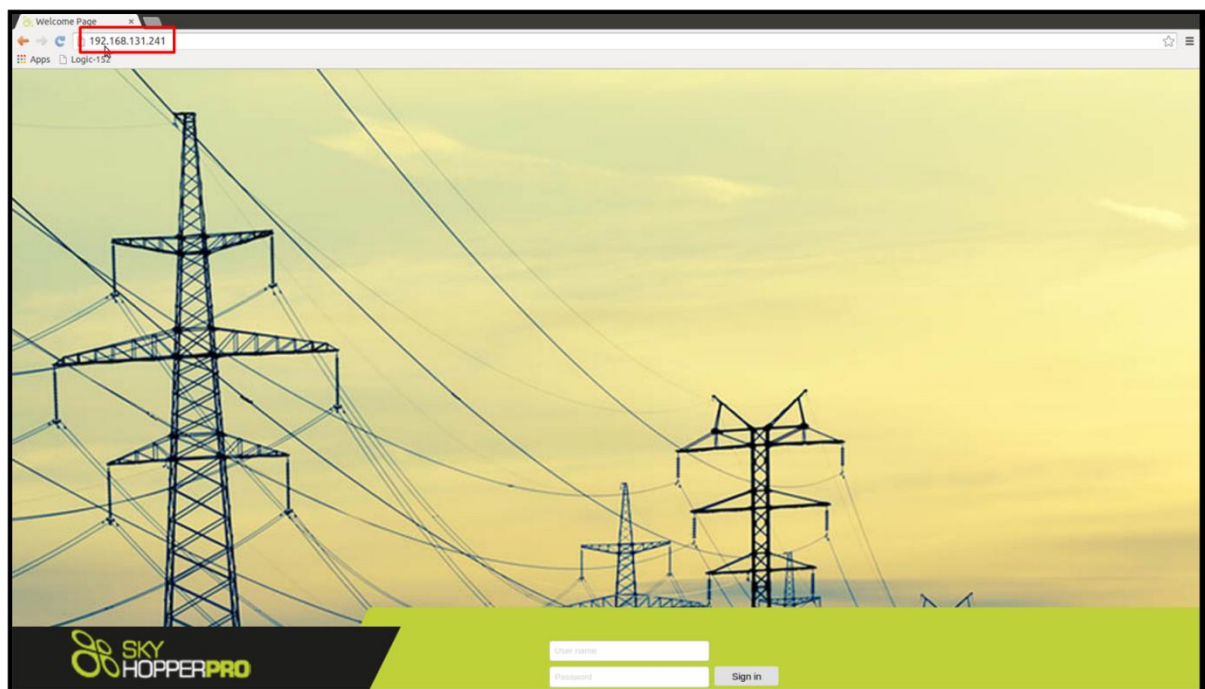

Figure 6: Web GUI main screen
4. Using the Web GUI: Open a web browser installed on your PC / laptop (Chrome, Firefox, Internet Explorer, etc.) and input in the address line: 192.168.131.241. That should connect you to the Web GUI interface, as shown on Figure 6: